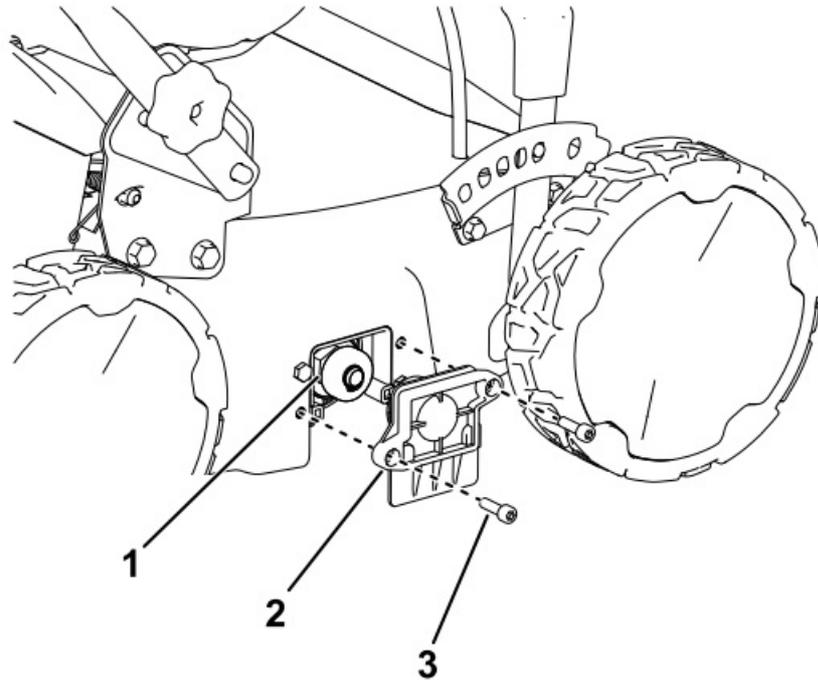

Figure 19
- Using the hex wrench, remove the 2 screws securing the bearing housing and the reel shaft from the right side of the machine (Figure 19).
- Install the bearing housing so that it secures the newly installed shaft assembly using the 2 hex-head screws removed in step 3 and store the hex wrench in the transport lever assembly (Figure 19).